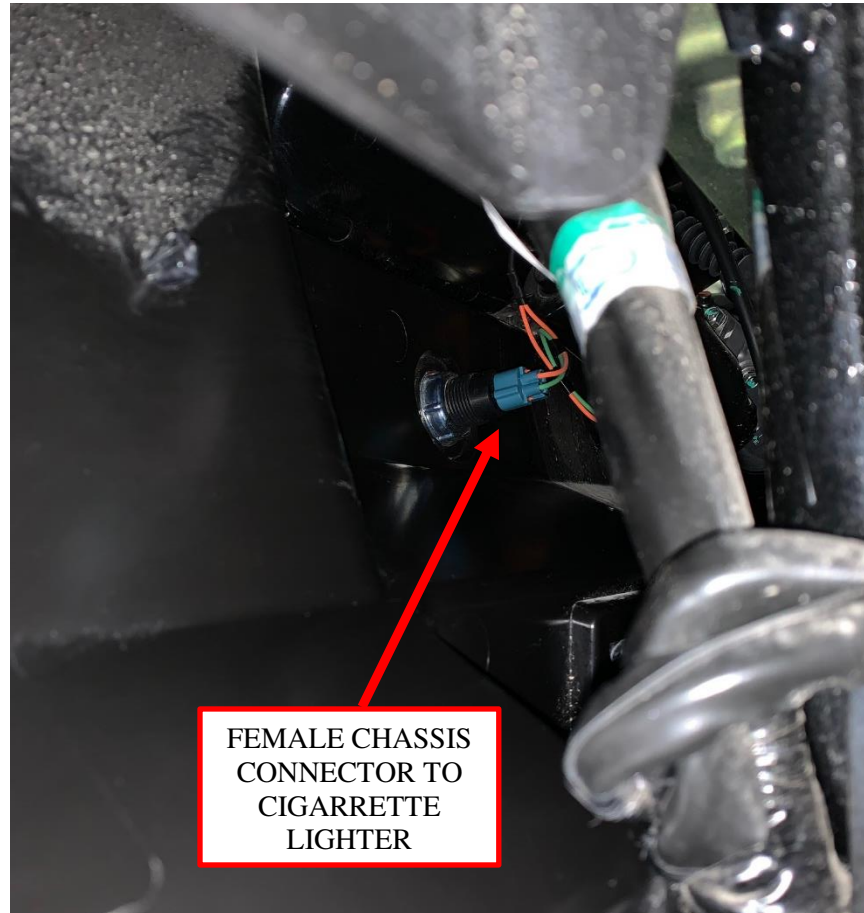

Figure 17: Connection location for chassis harness connectors.
14. The female connector will replace the OEM connector attached to the back of the accessory cigarette lighter as shown in Figure 17. This connection point is accessible through the hood opening under the rubber protector (Figure 17 from wheel well shown for a better view). The male connector on the chassis harness can then be connected to the OEM female connector.